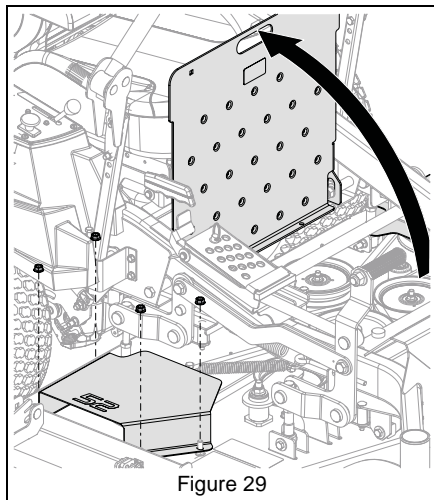

Figure 29
3. Remove hardware securing belt covers to deck and remove belt covers. See Figure 29.